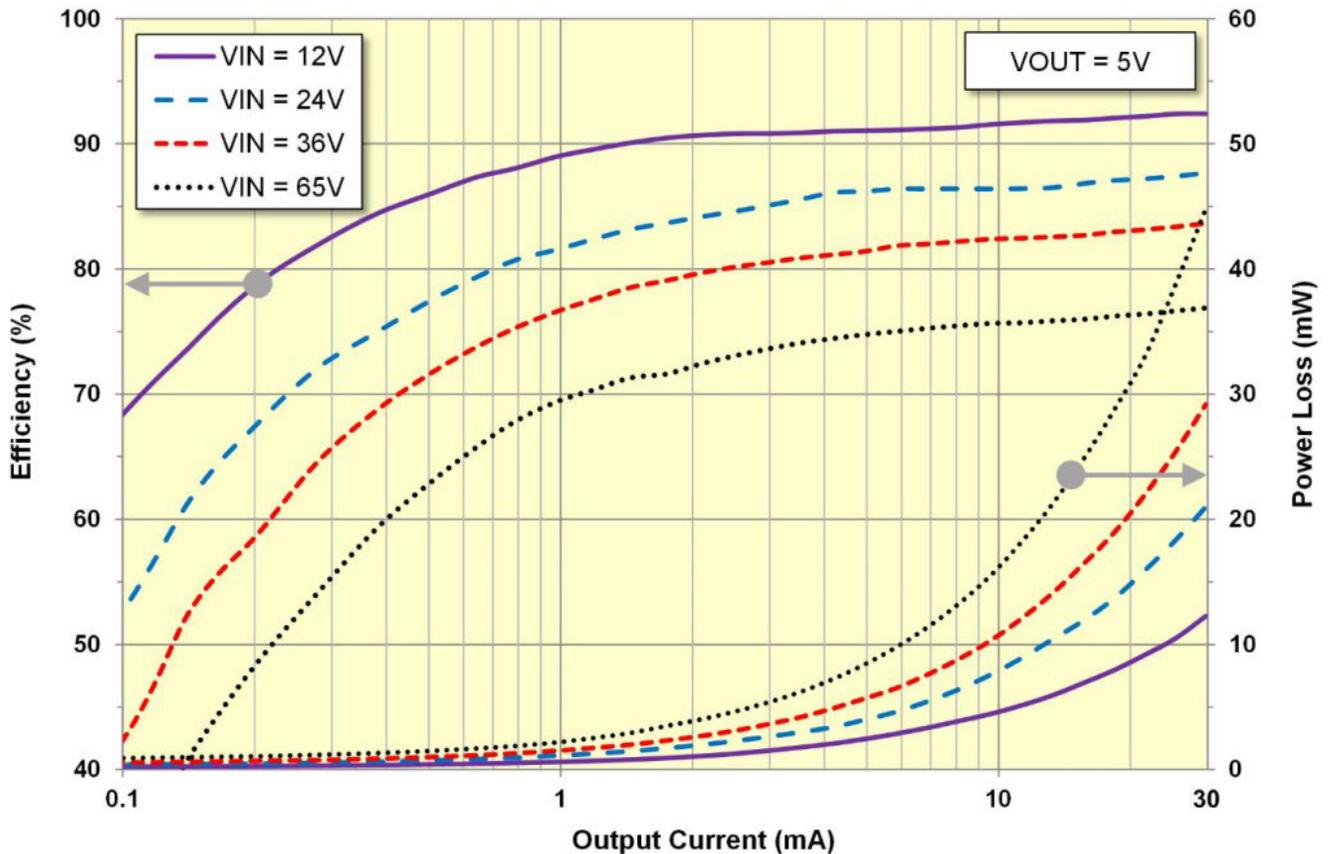

Figure 3. Typical Efficiency of the LM5165 Buck Converter (Output Rated for 5V at 25mA)
Various features incorporated in the **LM5165** for smart sensor applications include a simple control architecture for optimal solution size, 100% duty cycle capability for low dropout, an open-drain power-good circuit for power-rail sequencing and fault reporting, internally fixed or externally adjustable soft start (SS), and precision enable with customizable hysteresis for programmable-line undervoltage lockout (UVLO). Also, an adjustable cycle-by-cycle current limit optimizes inductor selection and sizing. Figure 3 shows the converter efficiency and power dissipation for a load current from 0.1mA to 30mA.